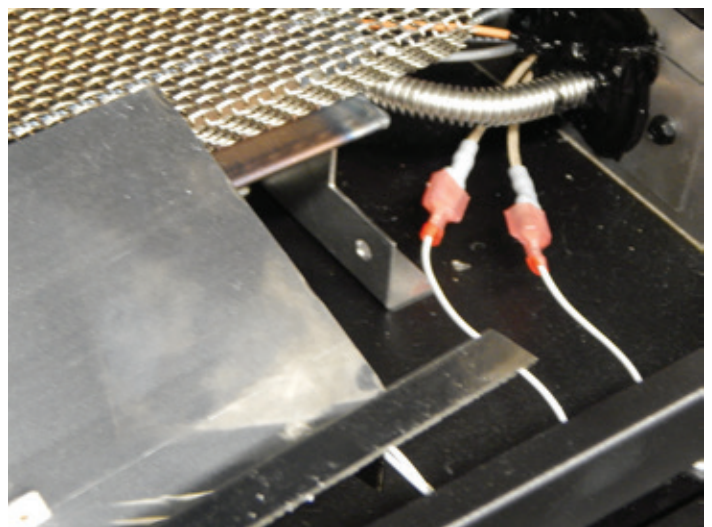

Figure 8
11. Install the Light Bracket assembly with the wire terminal connections to the right side. Plug up the two connectors as shown in Figure 8.